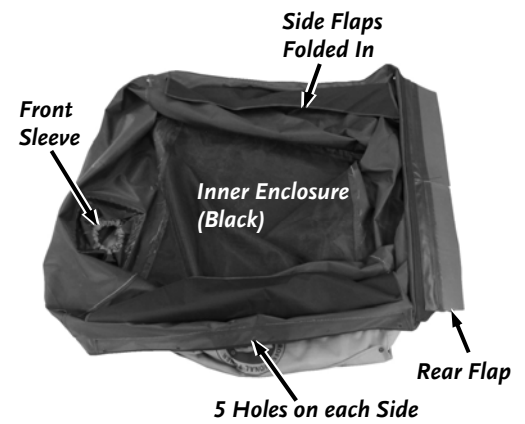

Figure 23
1. Lay out the Enclosure onto a clean flat surface so the inside (black) is facing up (Figure 23). Take note of the Sleeve location which is the front.